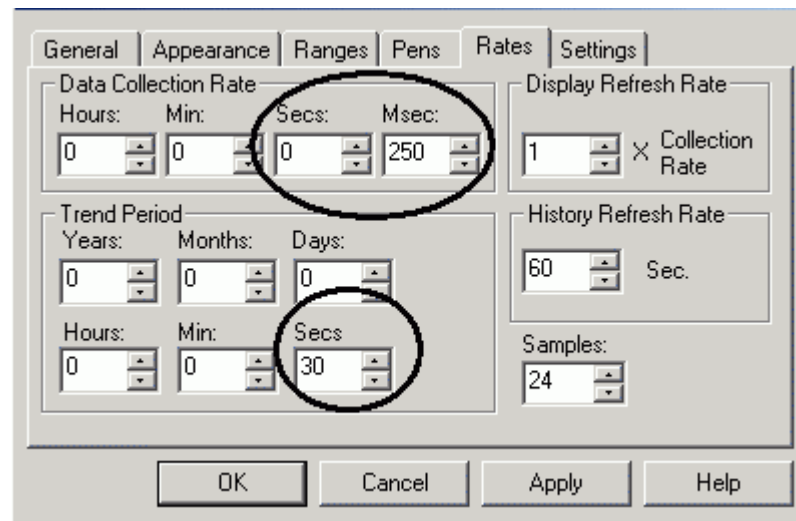

Figure 6.12. TrendWorX Viewer ActiveX Properties: Rates Tab
2. Then click on the **Rates** tab, as shown in **Figure 6.12**. Change the **Data Collection Rate** to 0 seconds, 250 milliseconds, and then click **Apply**.